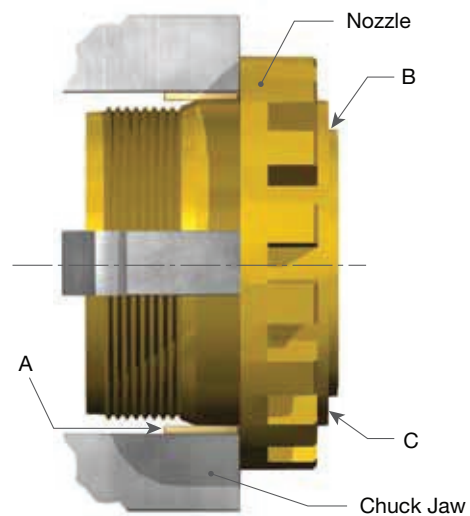

Figure 14: Machining Nozzle Seats
1. Grip the nozzle in a four-jaw independent chuck (or collet, if appropriate), using a piece of soft material such as copper or fiber between the jaws and the nozzle as shown at A (Figure 14).
2. True up the nozzle so that the surfaces marked B and C run true within .001" (0.03 mm) on indicator (Figure 14).